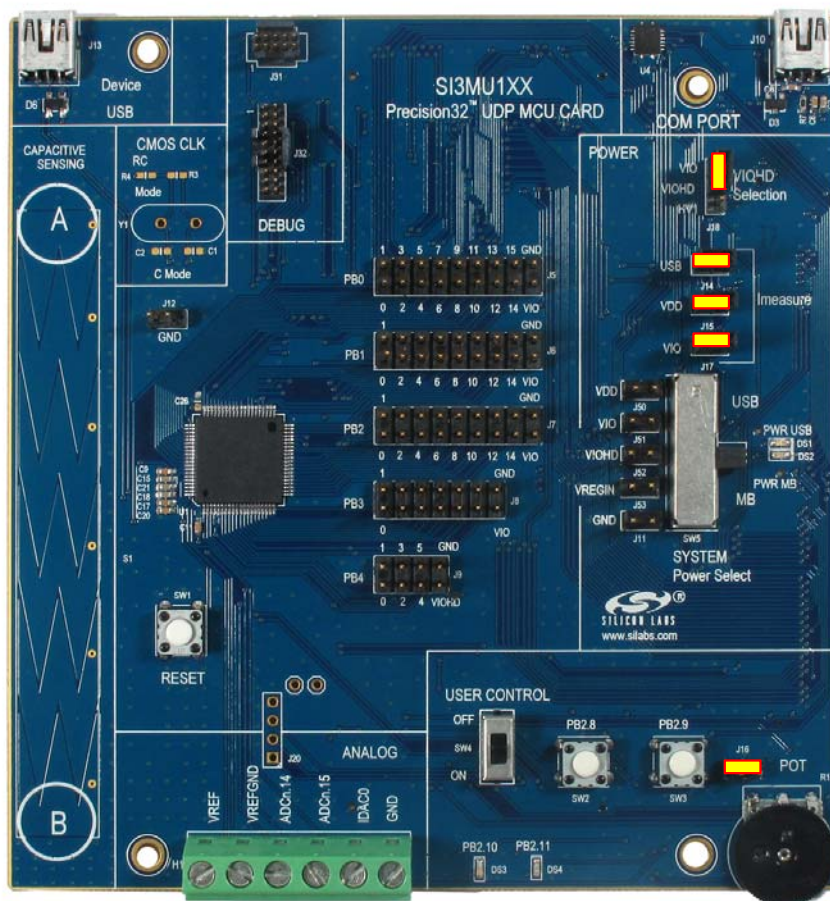

Figure 3. Shorting Block Settings
5. Verify the shorting blocks are installed as shown in Figure 3: